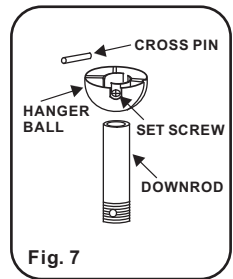

Fig. 7
Step 3. Remove the Hanger Ball from the Downrod Assembly by loosening the Set Screw and removing the Cross Pin. (Fig. 7)